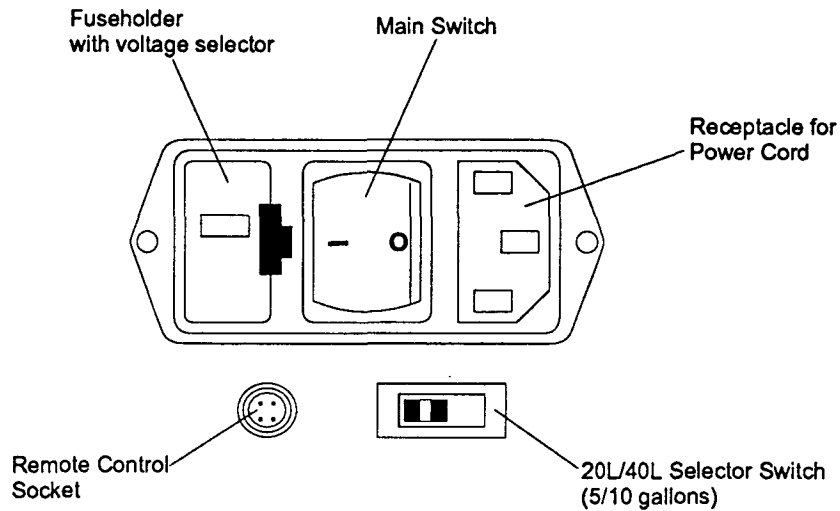

figure 6-3
4. Switch on the AUTOMIXER II Plus by pressing the MAIN SWITCH at the rear side (figure 6-3) to the on position. Keep either the WATER VALVE SWITCH, the FIXER VALVE SWITCH or both together pressed for approx. 3 seconds to start the PRIMING.